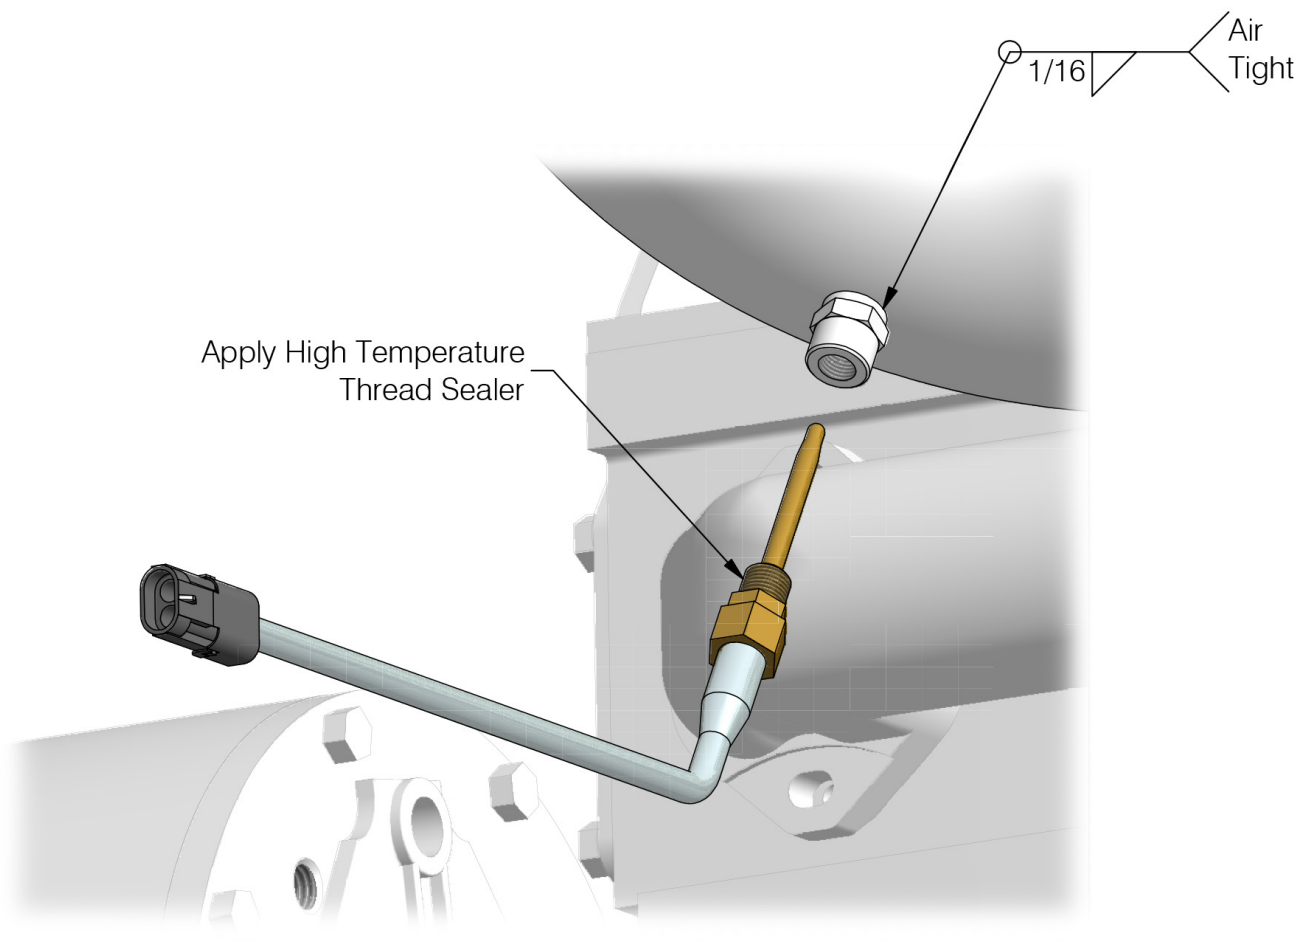

Figure 3 Weld fitting, and install Thermocouple
Step 2. Weld fitting to elbow as shown in **Figure 3**.
Step 3. Install the Thermocouple into the fitting as shown in **Figure 3**.